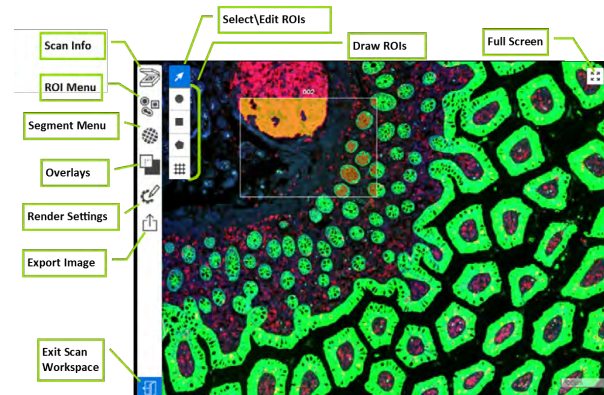

Figure 45: GeoMx DSP Scan Workspace with Exit button at lower left
1. Select the **Exit** button in the lower left of the Scan Workspace toolbar (see Figure 45) when ROI selection is complete.